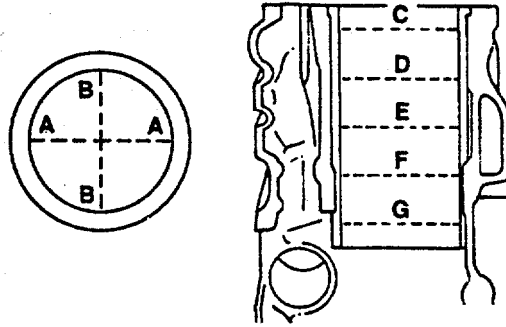

FIGURE 4-55. Checking Liner Bore.
- (h) Measure the liner bore for out of roundness as follows: (Figure 4-55)